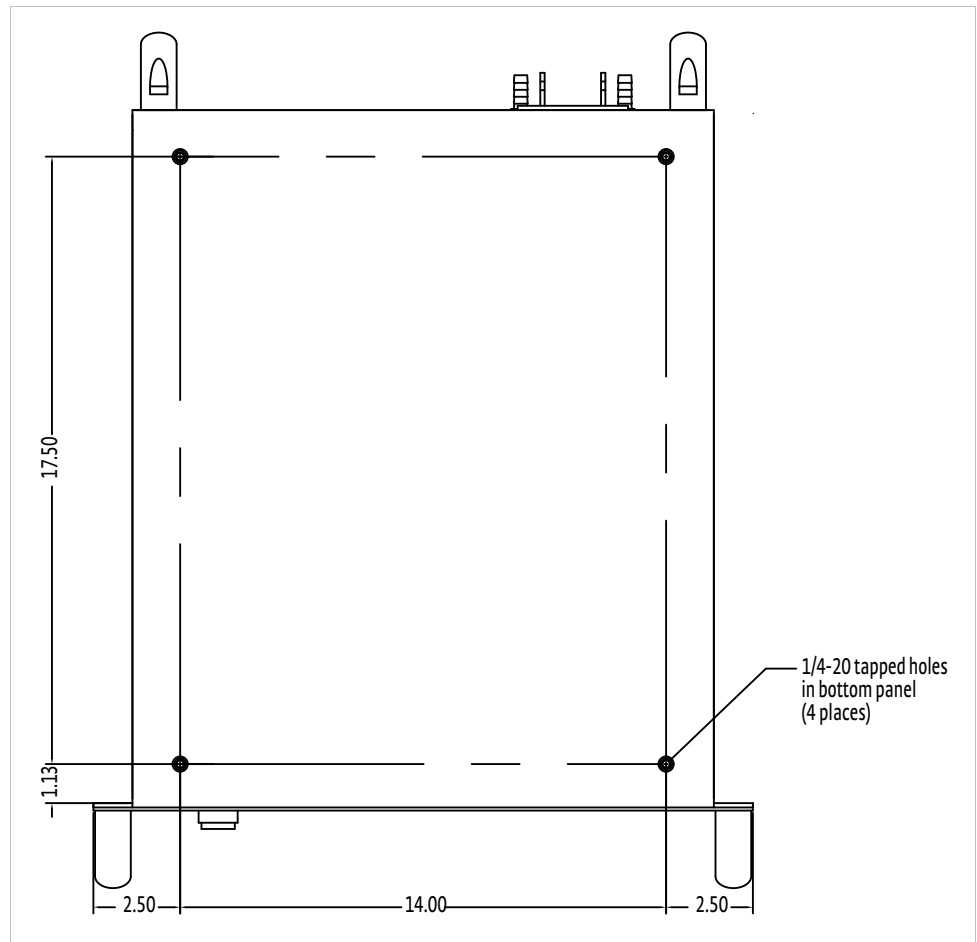

FIGURE 3-15 Mounting hole pattern
In addition, if you need to ship the equipment rack which houses the Model 643, it must be anchored to the shelf. Threaded inserts are provided in the bottom of the Model 643 for this purpose. Four (4) $\frac{1}{4}$ -20 $\times$ $\frac{1}{2}$ in bolts (not included) are required. The hole pattern for mounting is shown in FIGURE 3-15.